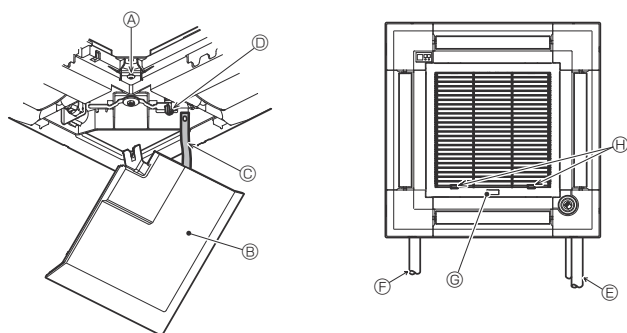

Fig. 9-11
9.5. Installing the intake grille (Fig. 9-11)